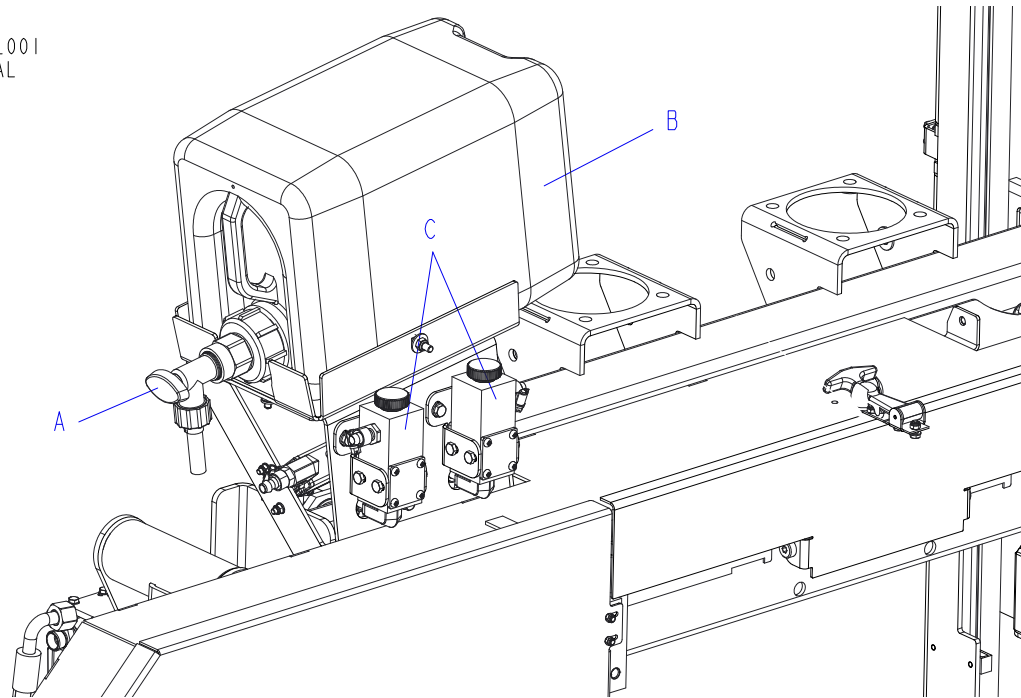

FIG. 2-14
See Figure 2-14. The Lube System keeps the blade clean during sawing. When the shut-off valve (A) is open, the coolant (ACP-1 oil) flows from the tank (B) through the hoses to surfaces of the wheels. Oil dispensers (C) located on the saw head control the amount of oil flow.